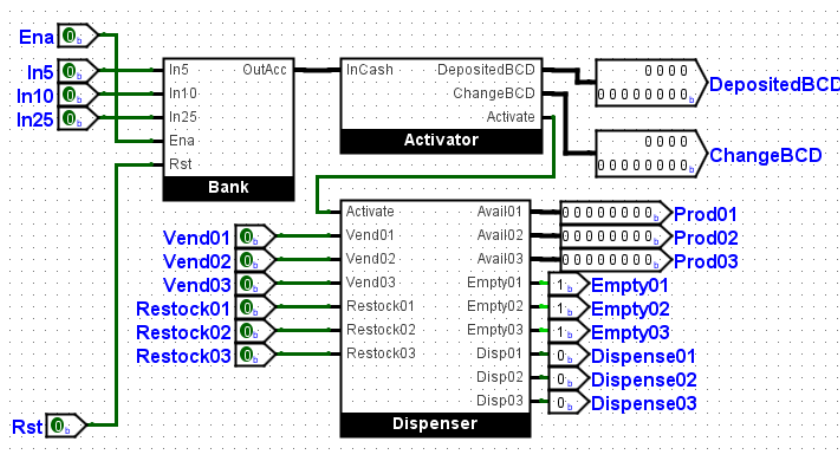

Figure 2.6: Vending Subcircuit
The **Vending** subcircuit consolidates the other subcircuits into an Integrated Circuit (IC) that is used in the **main** circuit. Figure 2.6 illustrates the **Vending** subcircuit.